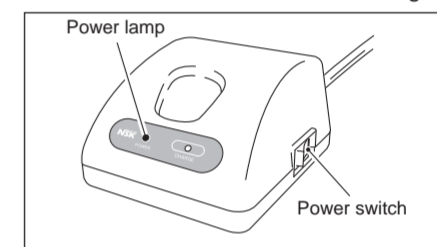

Fig. 5
- Turn on the power switch. At this time, check that the power lamp lights. (Fig. 5)